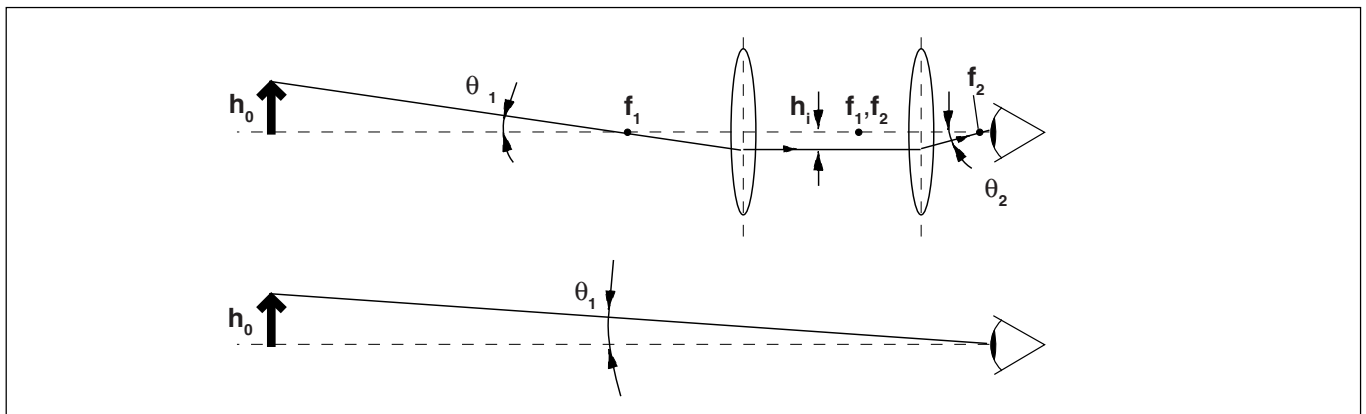

Figure 21.2 Telescope Magnification
The angular magnification (see Experiment 20: The Magnifier) for a telescope can be approximated by assuming the lenses are exactly $f_1 + f_2$ apart, as shown in Figure 21.2. The height of the object as seen with the naked eye is proportional to the angle θ_1 in the lower diagram. If the distance from the object to the telescope is large—much larger than is shown in the diagram— $\theta_1 = \theta_1'$, to a good approximation. The ray shown in the upper diagram passes through the focal point of the objective lens, comes out parallel to the optical axis of the telescope, and is therefore refracted by the eyepiece through the focal point of the eyepiece. The angle θ_2 is therefore proportional to h_i , the height of the image seen by the observer.
- ① Using Figure 21.2, calculate $\tan \theta_1$ and $\tan \theta_2$ as a function of the height of the image, h_i , and the focal lengths of the two lenses, f_1 and f_2 .